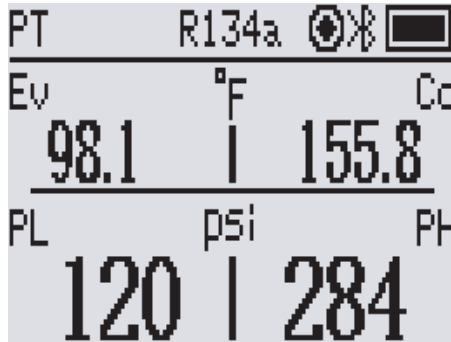

Figure 8 Data record icon
- 4.Start recording : Click to Recording , the recording icon on the device lights up and starts to flash (Figure 8) .
① The device can record up to 3000 pieces of data.